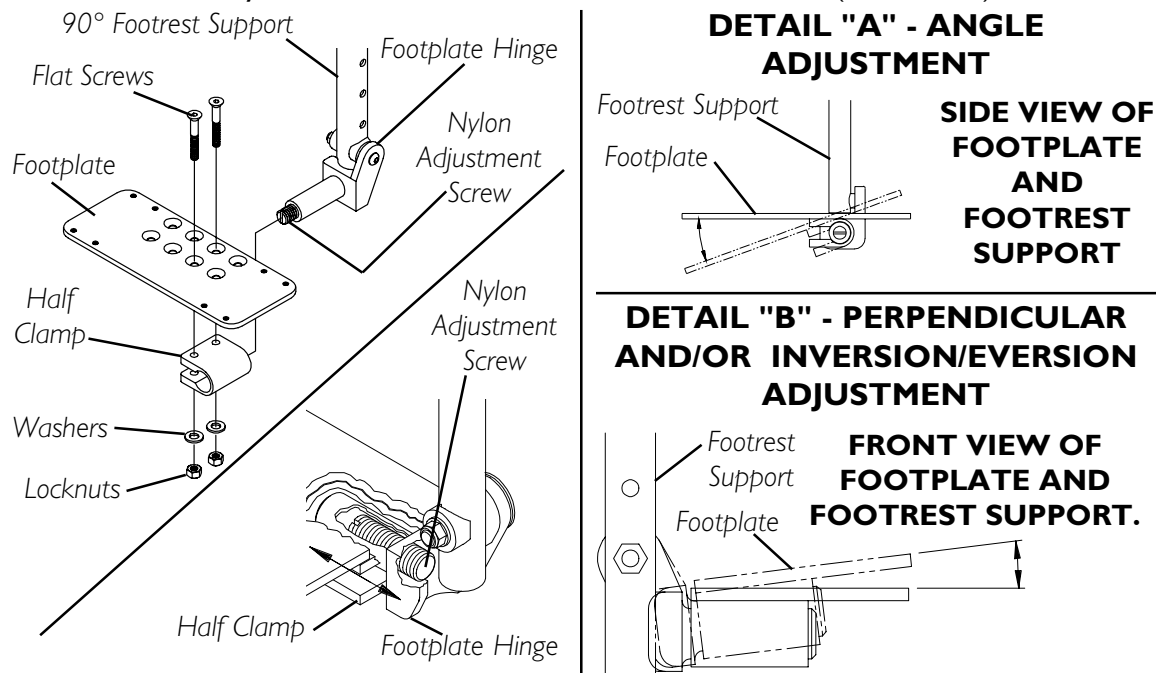

FIGURE 4 - ADJUSTING ADJUSTABLE ANGLE FLIP-UP FOOTPLATES
ADJUSTING ADJUSTABLE ANGLE FLIP-UP FOOTPLATES (FIGURE 4)
1. Loosen, but do not remove the two (2) flat screws and locknuts that secure the footplate to the footplate hinge as shown in FIGURE 4.
3. Retighten the two (2) flat screws and locknuts.